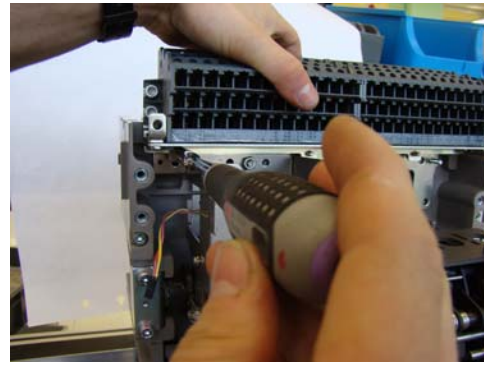

Figure 4. Nuts assembly
7. Assemble back the 3 nuts as shown in fig 4.